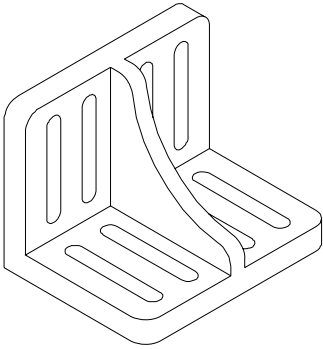

Fig. 7.28 An isometric drawing of the angle plate on which exercises 6 and 7 are based
7. Construct an isometric drawing of the angle plate shown in Figs 7.28 and 7.29.